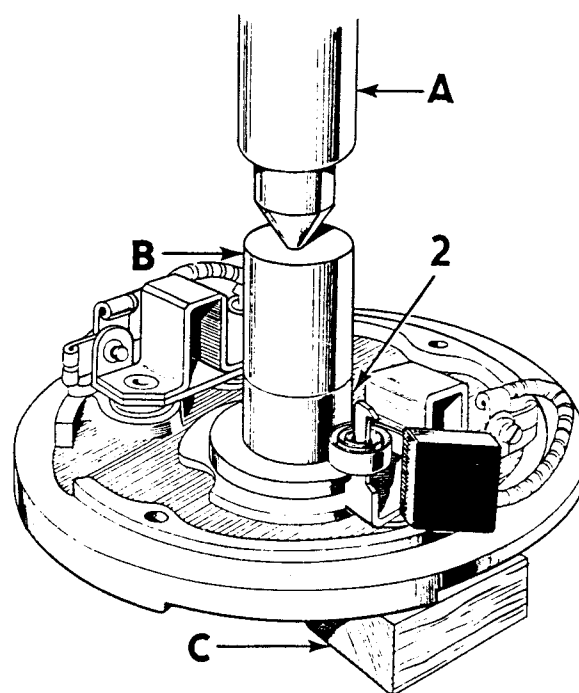

FIG. 5
2. Press the bearing bush out of the bracket by means of a hand press A, Fig. 5.
3. Press the new bearing bush (2) into the end bracket using a shouldered mandrel B of the same diameter as the shaft